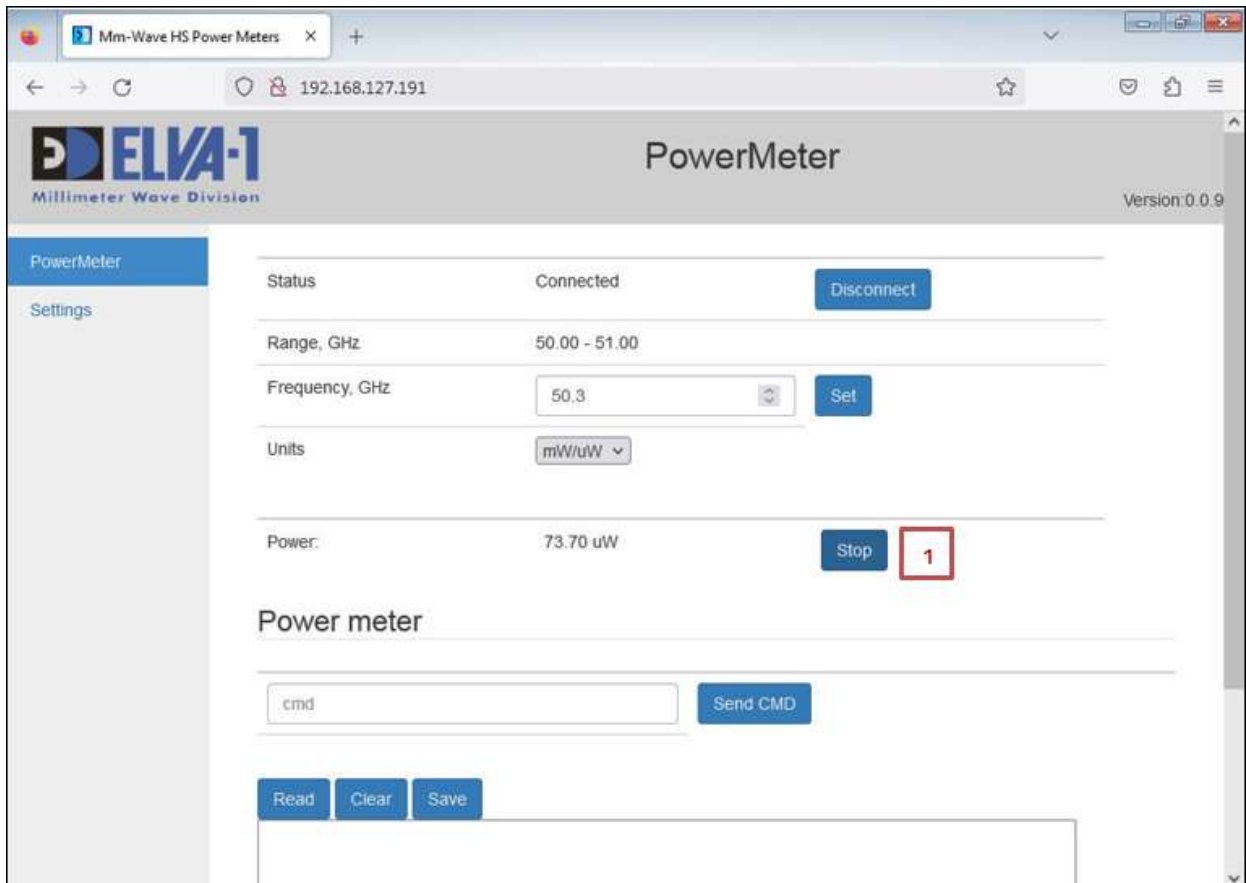

Fig.4. Power measurement during operation
- Click the 'Stop' button to end the measurements [marker #1, Fig. 4].